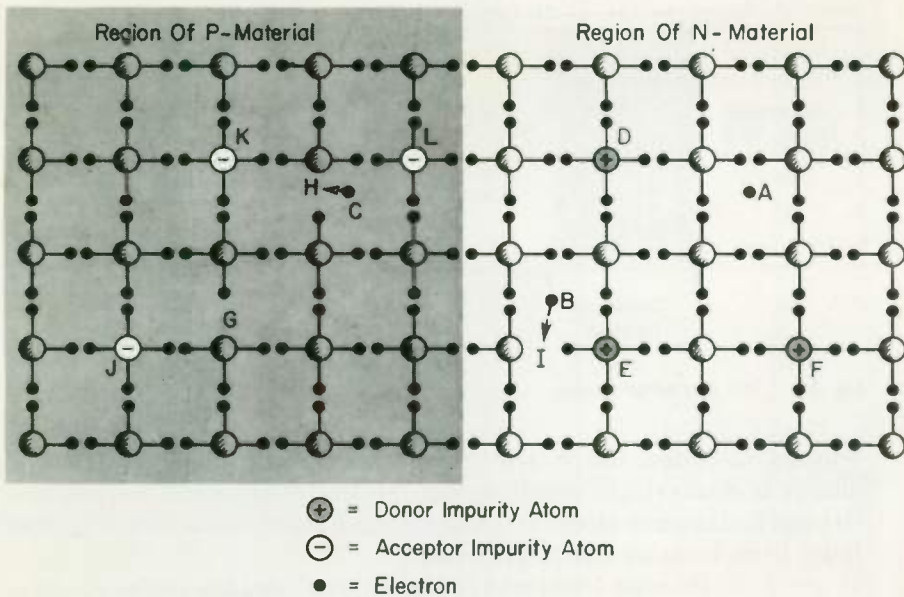

Fig. 13 Movement of charge carriers near junction.
18 ACTION AT THE JUNCTION . . . Since the holes and free electrons are continually wandering about at random (it is assumed that no voltage is applied to the crystal), some free electrons will wander a short distance into the P-region and some holes will wander into the N-region. Figure 13 shows what happens when they do. In the N-region of the figure there are three impurity atoms, identified as ⁽¹¹³⁾ _____ and _____. These (being donor impurities) normally have ⁽¹¹⁴⁾ _____ electrons in their valence rings. However, the fifth ones, not having any covalent bonds, break away as free electrons A, B, and C, leaving the impurity atoms as ⁽¹¹⁵⁾ _____ charged ions.
In the P-region of Fig. 13 there are three acceptor impurity atoms, J, K, and L. Acceptor atoms normally have ⁽¹¹⁶⁾ _____ electrons in their valence ring. To complete their covalent bonds with adjacent atoms, the ones in the figure have four valence electrons, and are hence ⁽¹¹⁷⁾ _____ charged. They obtained the extra electrons by forming holes G, H, and I. These holes are ⁽¹¹⁸⁾ _____ charged.
After the two sets of electrons and holes have been eliminated as described above, there will be three negative charges in the P-region, formed by ions J, K, and L. There will be one positive charge in the P-region formed by hole G. The section of the P-region shown in Fig. 13, taken in its entirety, will then be ⁽¹¹⁹⁾ _____ charged.
Consider now the N-region. There will be three positive charges in this region, represented by ions D, E, and F. There will be one negative charge, represented by electron (120) _____. The section of the N-region shown in Fig. 13, taken as a whole, will then be (121) _____ charged.